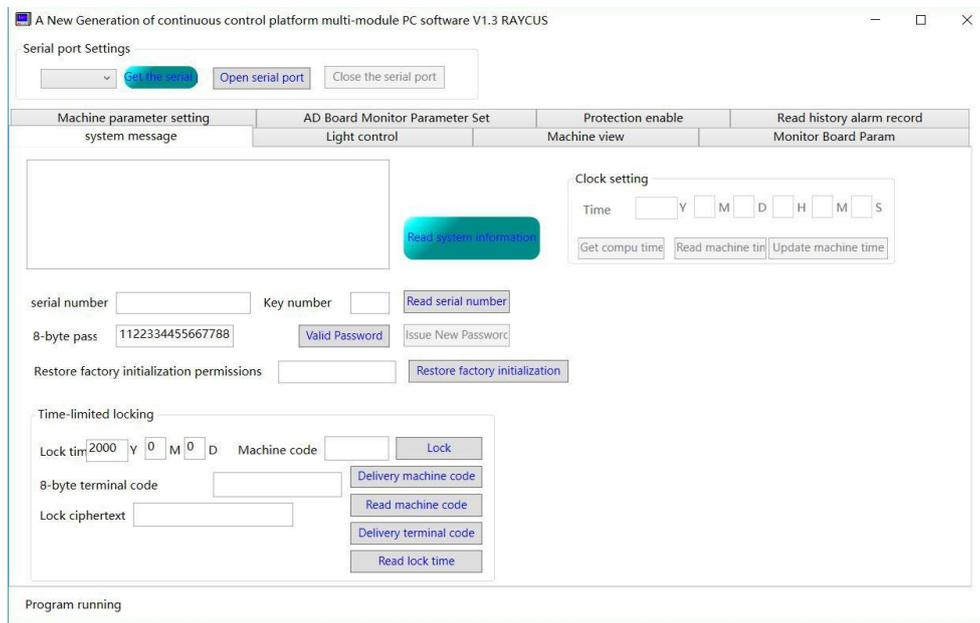

Figure 16 Inteface 1 of the RAYCUS laser client control software.
- (1) The power wiring and control wiring are connected correctly, and the voltage meets product requirements.
- (2) Ensure the laser emission button on the front panel is released and the level of sixth pin “LAS\_C” of “INTERFACE” port on the rear panel is low.
- (3) Status of Interlock is correct..
- (4) Make sure that the water cooling system is connected. The water cooler starts to work, and the temperature of the water is at the proper working temperature (about 25 °C). Check whether there is any leakage issues within entire water cooling system and the joints.
- (5) Turn the key to “ON” position, and power on the laser, then the green LED will illumine. Double click the RAYCUS laser client control software, then the following interface can be seen in Figure 16.